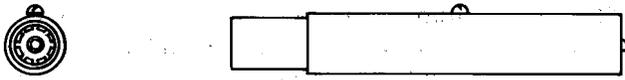

Fig. 16—566A Jack
2.16 566A: This coaxial-type jack (Fig. 16) has coaxially arranged inner and outer contacts. This jack is designed to be used with the 358A and similar-type plugs. The 566A jack is not designed for connection to a coaxial cable. The jack is provided with a one megohm resistor connected internally from the center contact to the shell. The 566A jack will withstand a 3000 volt ac breakdown test and is used as a terminating jack. This jack is used with the L4 Coaxial System.